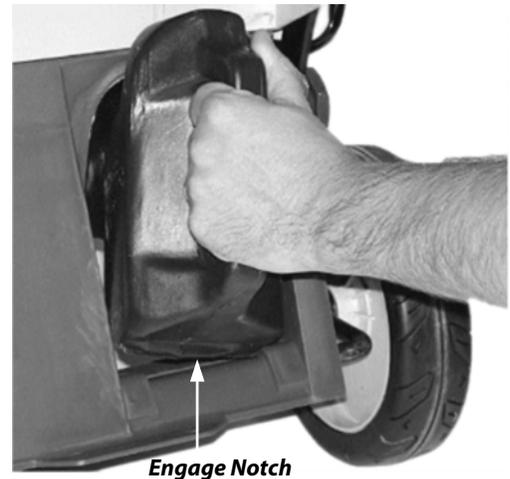

Figure 8
2. Install the Mulching Plug (**Figure 8**). Be sure to push the Plug all the way in until the Notch in its bottom is engaged.